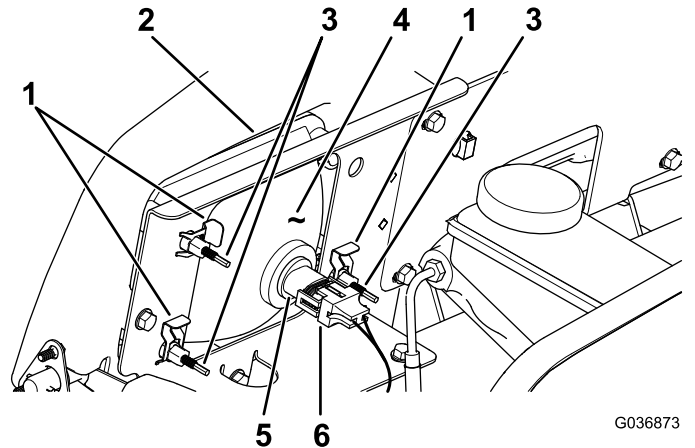

Figure 55
3. Disconnect the electrical connector for the harness from the connector of the lamp assembly (Figure 55).
4. Remove the speed clips that secure the headlight to the headlight bracket (Figure 55).
5. Remove the headlight assembly by moving it forward through the opening in the front bumper (Figure 55).
6. Install the new headlight through the opening in the bumper (Figure 55).
8. Connect the electrical connector for the harness to the connector of the lamp assembly (Figure 55).
2. At the back of the headlight assembly, rotate adjustment screws (Figure 55) to pivot the headlight assembly and align the position of the cast beam.